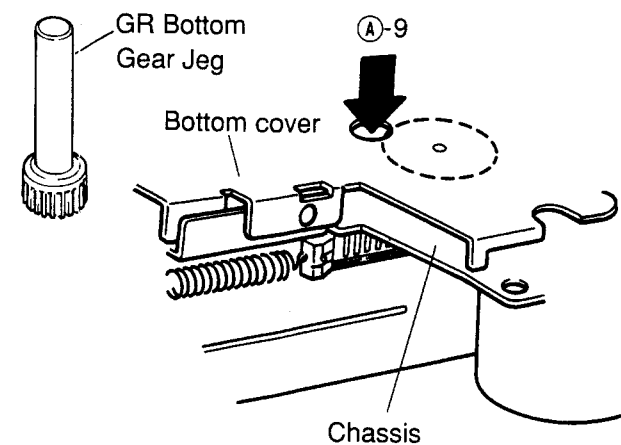

Figure 4
- (12) Since the hooks marked ⑥-8 will be lifted slightly as shown in Figure 4, insert the jig through the hole ⑥-9, and fix it turning the jig slightly in the direction ⑥-11.
(Refer to Figures 4 and 5.)
- (14) Insert the jig into the hole ⑥-9 as shown in Figure and rotate the eject solenoid counterclockwise about 20 times, pulling it in the direction ⑥-10 with the finger. Then the eject operation is completed.
Instead of operation (14), the eject operation can be performed by mounting the mechanism to the product. (Refer to Figures 4 and 5.)